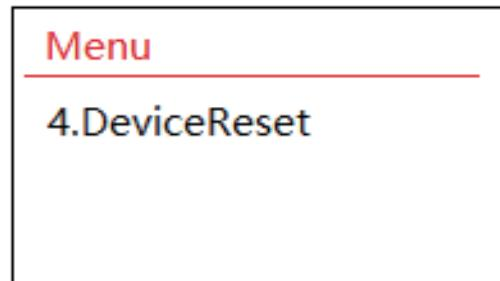

Fig. II.7.1
2) Choose “Device Reset” and press the button to enter the reset confirmation interface. Refer to Fig. II.7.1.